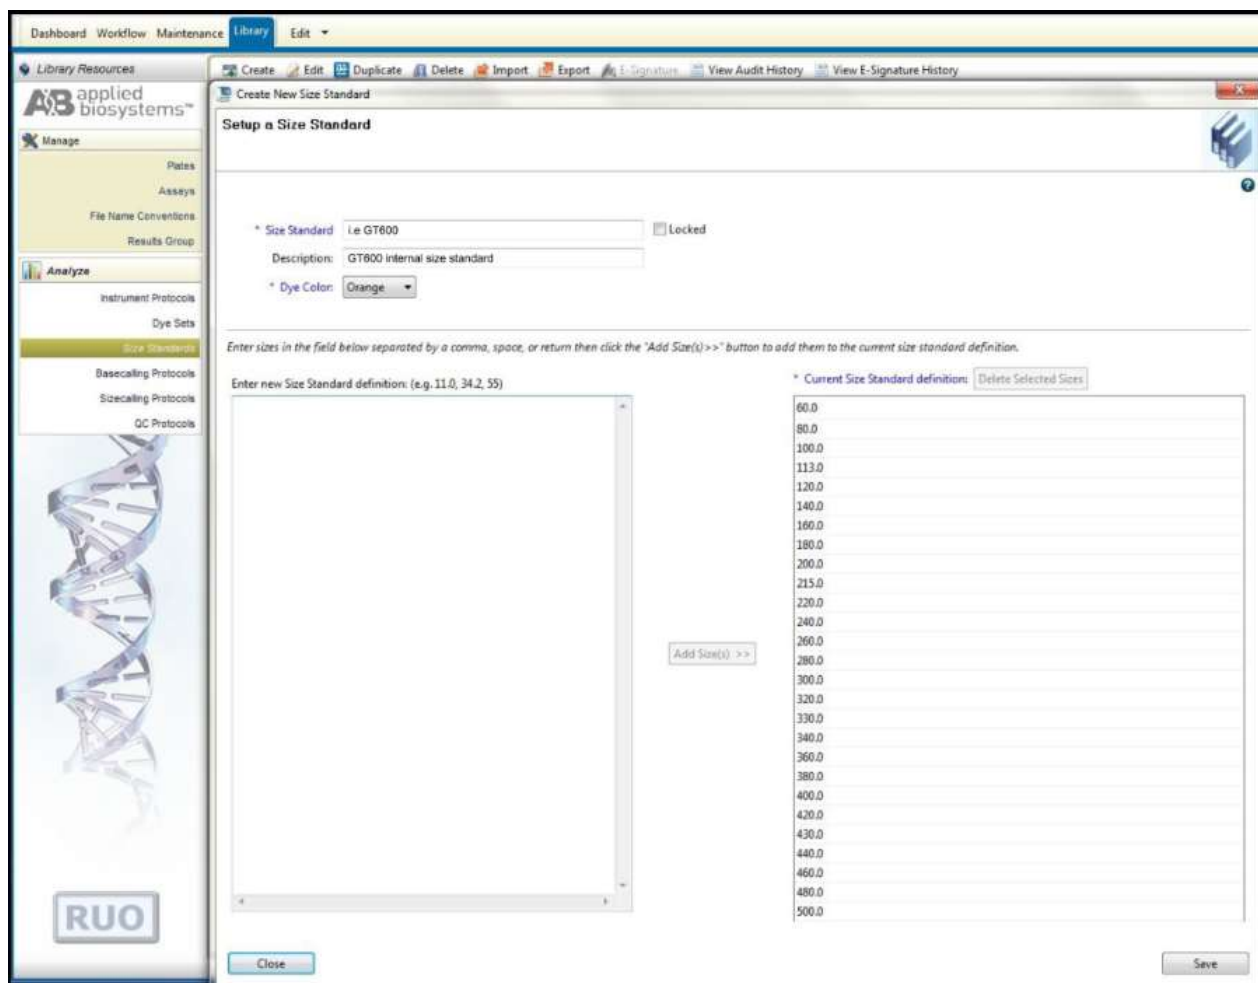

Figure 6. Screenshot for the “Create New Size Standard” window on Applied Biosystems 3500 Data Collection software
- c) Select “Create” (Figure 6)
Users can select settings as shown in the Figure 6 or alternatively may define these settings based on internal validation condition for AneuSure® Extra v2 on the Applied Biosystems® 3500/3500xL Genetic Analyzer.